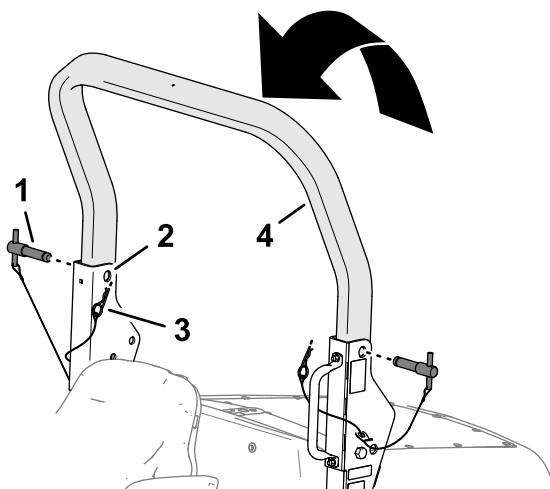

Figure 32
- Raise the upper roll bar until the holes in the roll bar align with the pivot brackets (Figure 32).
- Insert the roll-bar pins through the upper holes of the pivot brackets and the upper roll bar (Figure 32).
- Secure roll-bar pins to the pivot brackets with the hairpins (Figure 32).